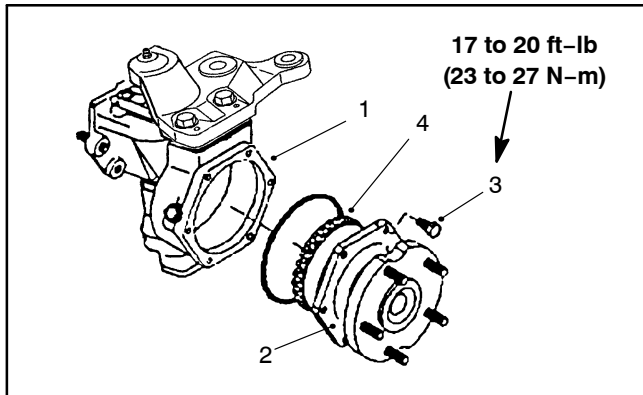

Figure 30
1. Remove the axle cover mounting screws. Remove the axle cover from the axle case as an assembly (Fig. 30).